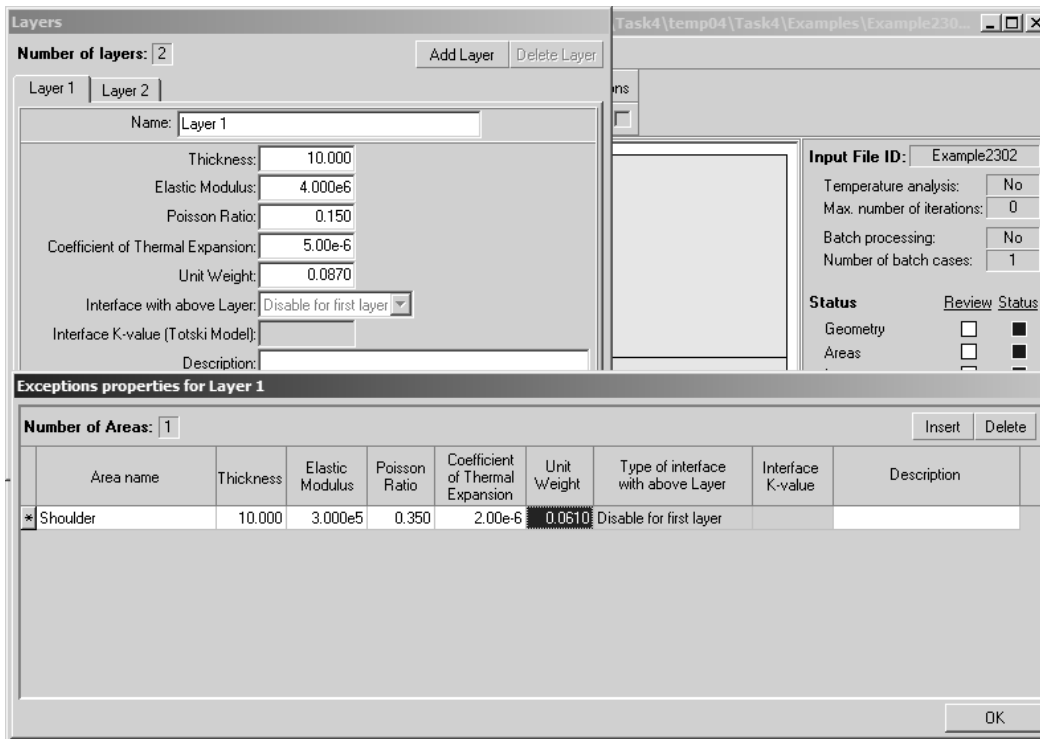

Figure E23-6: Edit Inputs for the Layers Module (continued)
- Step 4: Enter the material properties for AC shoulder as shown in Figure E23-6.